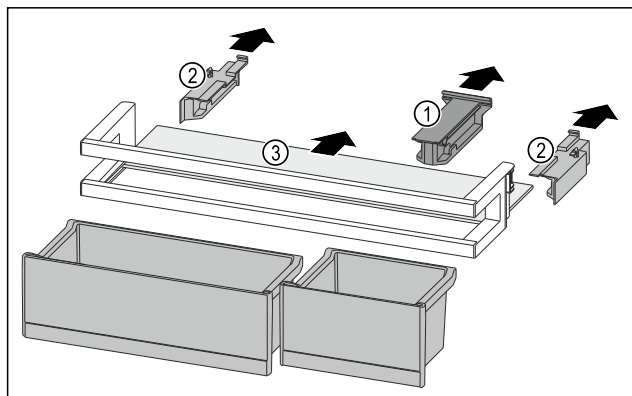

Fig. 198
- Pull off the holding part Fig. 198 (1).
- Pull off the side parts Fig. 198 (2).
- Remove the shelf Fig. 198 (3).